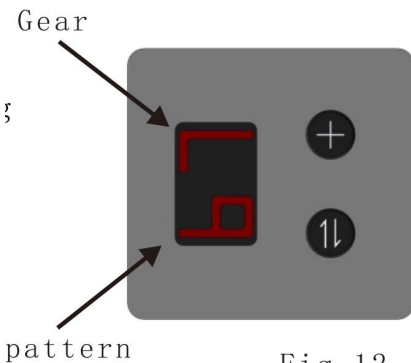

Fig. 12
-Check the appearance of the friction melting face (reference Figure 12) that should be uniform and flat. If the surface is not well, check the friction melting time setting (see 6. 3. Section 3).